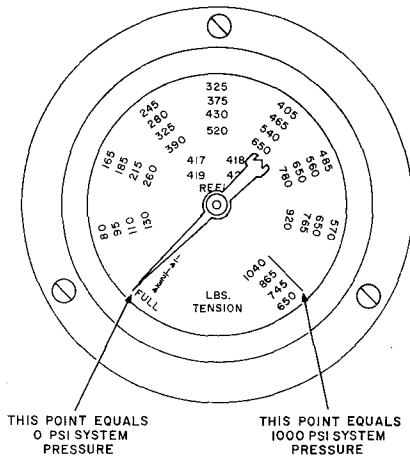

Fig. 5—Cable Tension Gauge Dial
4.05 The gauges furnished as a part of the L2A and L3A Hydraulic Systems are calibrated to convert hydraulic pressure to cable tension in pounds. The numbers on the dial (Fig. 5) are arranged around the dial in columns. The numbers at the outer edge of the dial in each column indicate cable tension when braking a full reel of cable. The numbers nearest the center of the dial in each column indicate cable tension when braking a 1/4 full reel of cable. This provides a means for quickly estimating the cable tension as the cable is payed out. By utilizing the dial, the operator can gradually